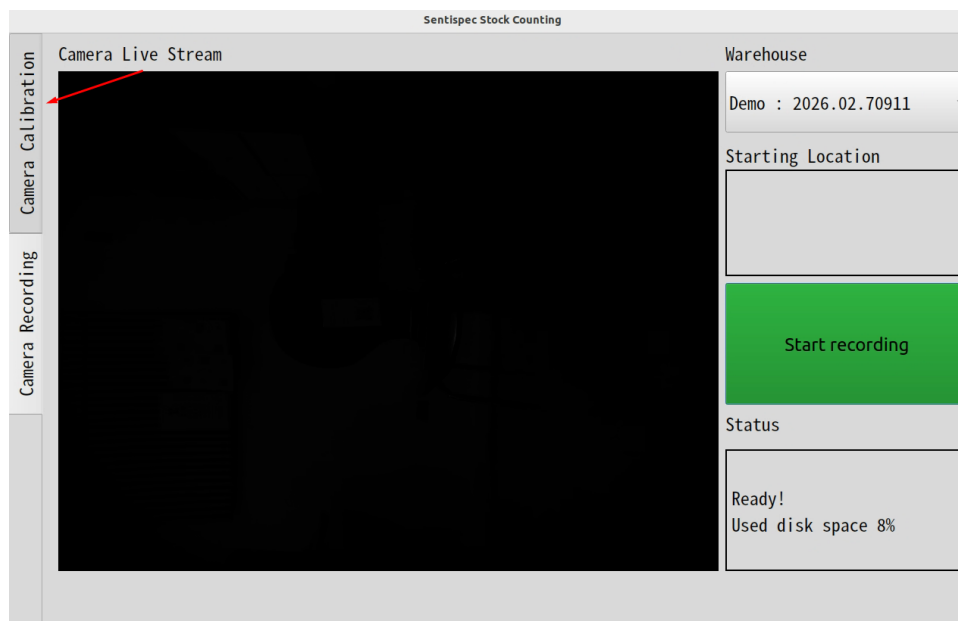

FIGURE 7-1 - CAMERA CALIBRATION TAB
2. Start the recording unit and select the tab "Camera Calibration" see Figure 7-1 - Camera calibration tab